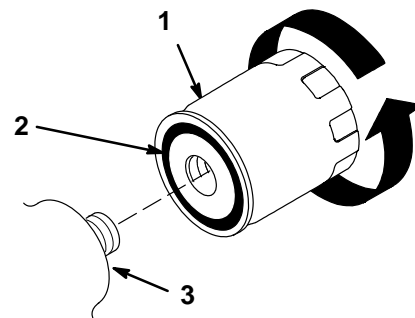

Figure 30
7. Apply a thin coat hydraulic fluid to the rubber gasket on the replacement filter (Fig. 30).
8. Install the replacement hydraulic filter onto the filter adapter. Tighten it clockwise until the rubber gasket contacts the filter adapter, then tighten the filter an additional 1/2 turn (Fig. 30).